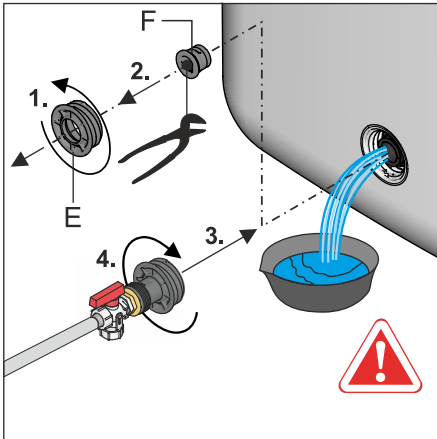

Fig. 9-4 Screwing the combined filling and draining filling connection into the filling and draining connection
- Unscrew the threaded piece on the filling and draining connection (Fig. 9-4, item E), remove the sealing plug (Fig. 9-4, item F) and immediately screw in the pre-installed threaded insert with **combined filling and draining filling connection into the filling and draining connection** (Fig. 9-4) again.